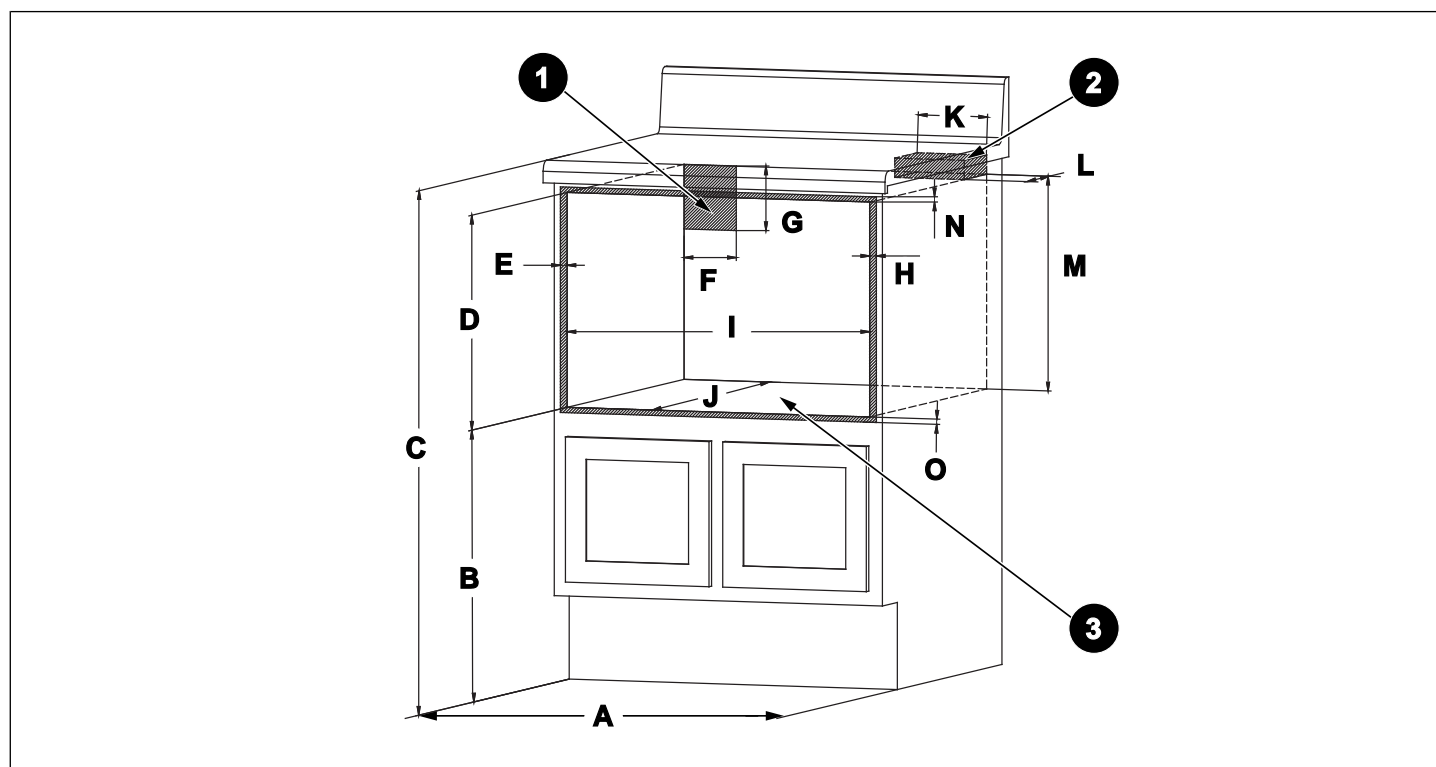
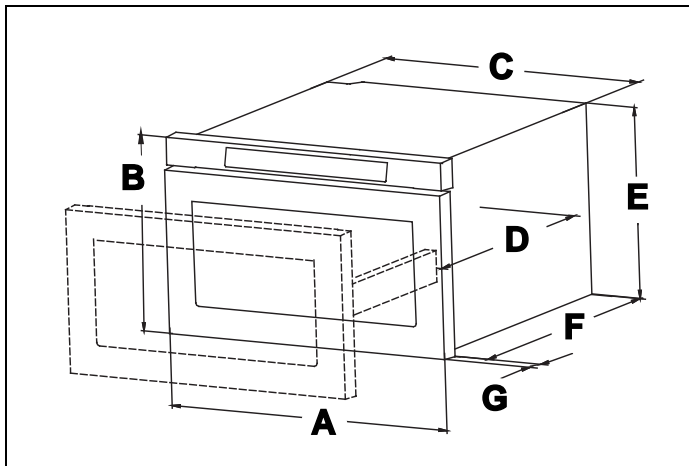

Fig. 4
Fig. 5
- Dimensions that are shown in Fig. 4 must be used. Given dimensions provide minimum clearance. Locate electrical outlet in the shaded area in the upper left-hand corner of the cutout. Fig. 4
Fig. 4 and Fig. 5 contain many Microwave Drawer measurements for reference when planning the drawer's location. This Microwave Drawer can be installed below any electric or gas wall oven. *Can also be installed using an electrical outlet in an adjacent cabinet within the area where tire provided electrical cord can reach. Power cord access hole in cabinet should be a minimum 1 1/2" diameter hole and debarred of all sharp edges.